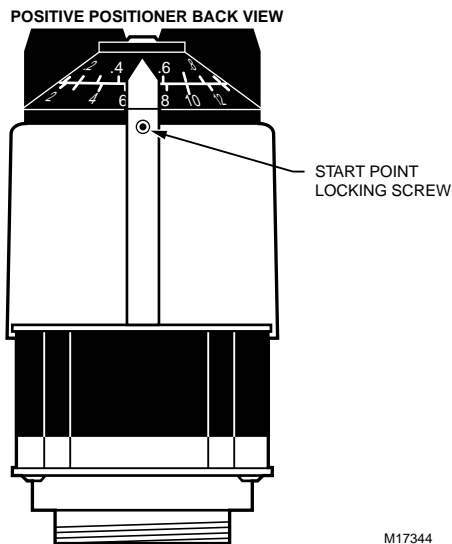

Fig. 7. Positive Positioner Start-Point Locking Screw.
2. To lock the start point, tighten the start-point locking setscrew with a 5/64 in. Allen wrench. (See Fig. 7.)